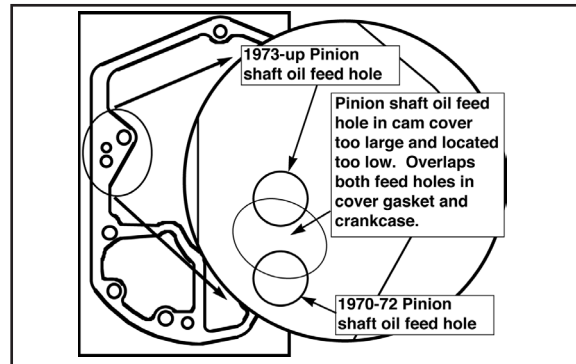

Figure 5
- Some aftermarket gearcovers have incorrect machining that may cause poor alignment of oil passages, pinion shaft, cam and dowel locations. Incorrect machining on some 1970 to present aftermarket covers may also cause poor alignment between oil passage in gearcover pinion shaft oil supply passage in crankcase. **See Figure 5.** Additionally, S&S has found some covers to have porosity between pinion shaft oil supply and crankcase breather passages. Result is that high pressure oil intended for top end is diverted to breather cavity or bottom end, starving hydraulic tappets, rocker arms, etc. as a result. Problem may be intensified by heat; as engine temperature increases, oil thins and pressure drops, flywheel cavity becomes flooded with oil, scavenging mechanism becomes overwhelmed and excessive oil is blown out crankcase breather. Engine damage may also occur.